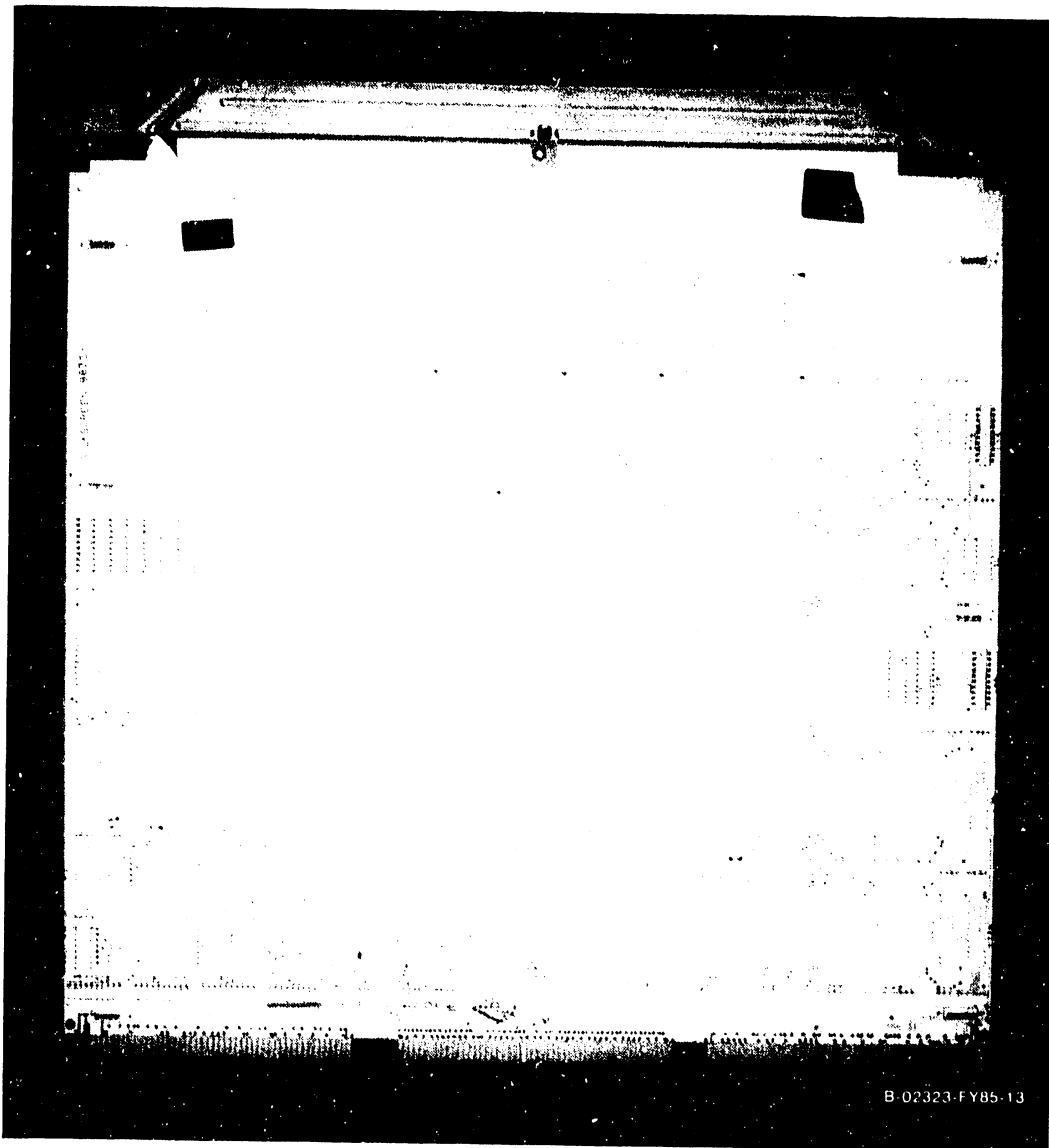

Figure 5-18. 210-8835 Support Control Unit
1. Remove the Support Control Unit (SCU) (figure 5-18) from backplane slot #5 in the manner described in 5.3.2.4.1. There are no cables, switches, or jumpers on the SCU.